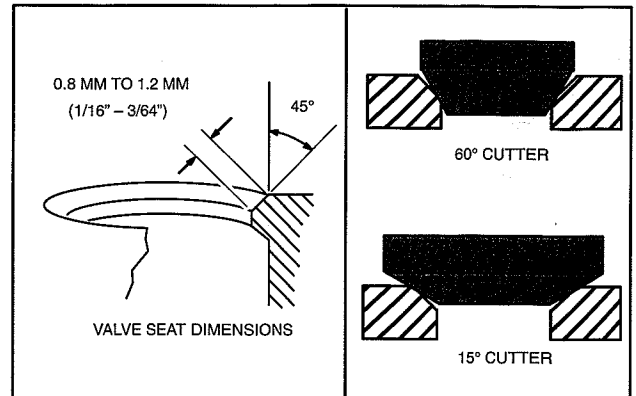
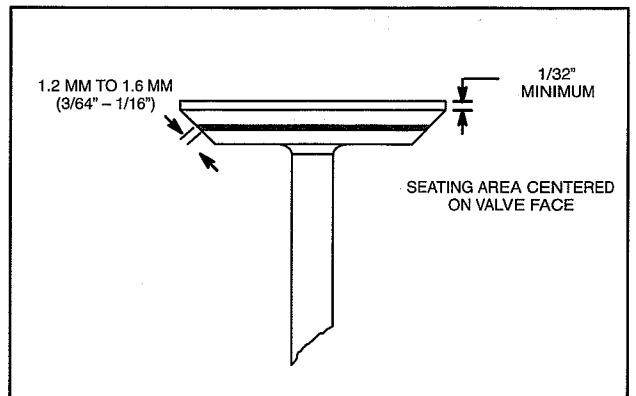

Fig. 15 – Valve Seat Dimensions
Fig. 17 – Valve Dimensions
If valve seat is wider than dimension shown in Fig. 15, a narrowing cutter should be used to ensure that contact area of valve seat is centered on face of valve as shown in Fig. 17.
- a. Use a 60° cutter to narrow seat from bottom and a 15° cutter to narrow seat from top, Fig. 15.
3. Valve faces may be resurfaced to 45°. See Fig. 17 for dimensions for valves.